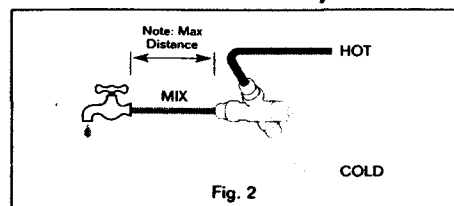
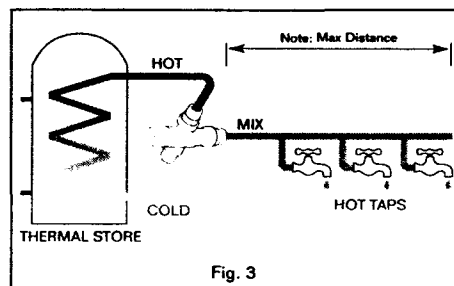

Fig. 2
Fig. 3
– Bath or wash basin taps in systems where hot water is stored and supplied at high temperature (Fig. 2).
– Thermal store systems which operate at high temperature and require a mixing valve to reduce draw-off water temperatures at taps. The efficiency of the thermal store system is also improved by the use of a mixing valve (Fig. 3).
The Mixcal III can be connected to a single outlet (as Fig. 2) or can be fitted to serve several hot water outlets (baths, wash basins, showers etc. – e.g. Fig. 3) providing that both the water supply pressures and mixed flow rate are adequate – Refer to Pressure Drop/Flow Rate diagram (Fig. 1).